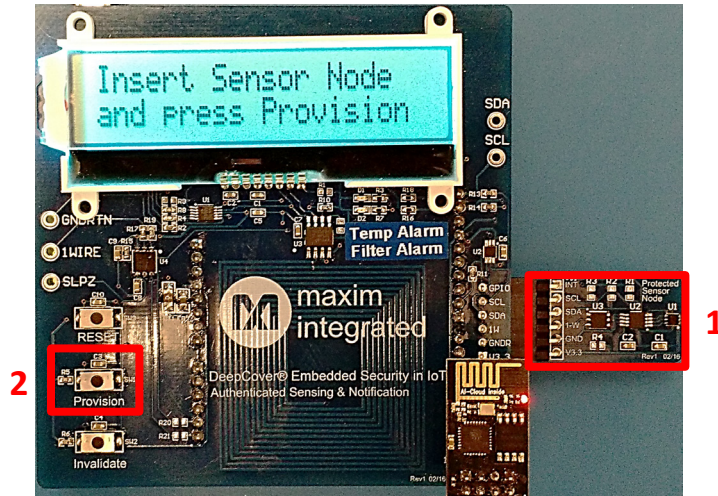

Figure 14. Inserting the Sensor Node.
5. Insert the Sensor Node (1), and then press the **Provision** button (2) to continue (Figure 14). A prompt appears if the Sensor Node has never been provisioned. Press the **Provision** button to perform the procedure and continue. The Controller enters **Normal Operation** mode if the Sensor Node was just provisioned or is an existing authentic node. The Controller enters **Sensor Node Not Authentic** mode if the Sensor Node is an existing non-authentic node.